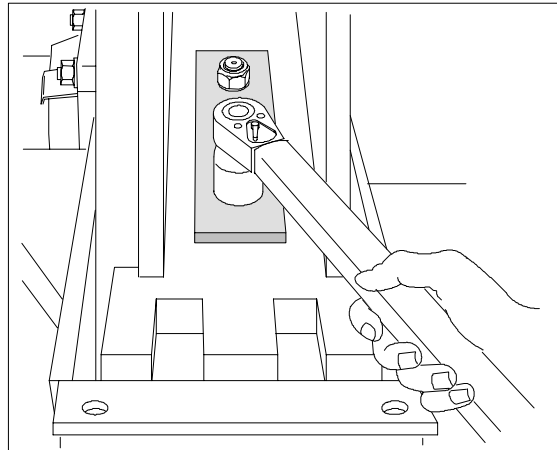
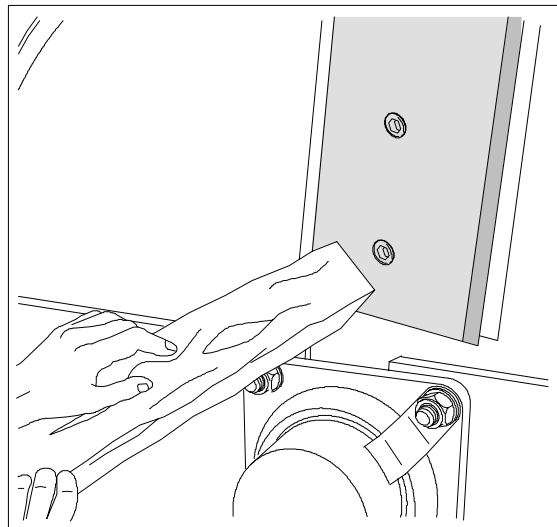

Fig. 28. Loosening the knife bracket nuts.
Fig. 29. Moving the knife bracket.
2. To increase the chip length, loosen the anvil fastening bolts (A) and (B) (M16) first.
4. Loosen the knife bracket fastening nuts (M20). See Fig. 28. Adjust so that the distance from both ends of the knife to the edge of the disk is equal. If necessary, tap the knife bracket with wood or a rubber hammer. See Fig. 29.